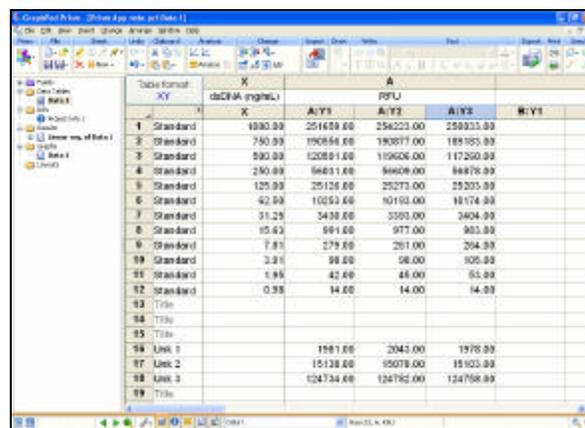

Figure 2.
- If raw data is in column format, take the following steps. Highlight cell **A:Y1** and right click to select **PASTE TRANSPOSE**. Select **PASTE DATA** to enter this data into the GraphPad Prism® 5.0 spreadsheet, using **Figure 2** as an example.
- If raw data is in row format, take the following steps. Highlight cell **A:Y1** and right click to select **PASTE DATA**. Enter this data into the GraphPad Prism® 5.0 spreadsheet, using **Figure 2** as an example.
- Enter data generated from unknown samples into the GraphPad Prism® 5.0 spreadsheet, using **Figure 2** as an example.